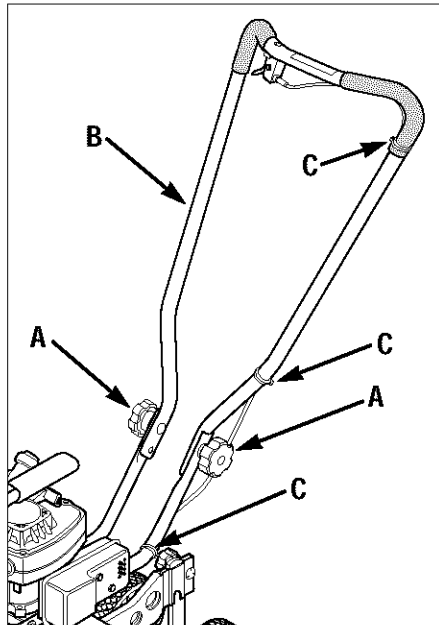

Figure 1: Loosen handlebar knobs and unfold handlebar. Slide plastic ties to the locations shown.
1. Loosen the two handlebar knobs (A, Figure 1) and unfold the handlebar into the operating position. Do not use force — if there is binding, continue to loosen the knobs.
3. Check the locations of the three plastic ties (C, Figure 1). The ties must be positioned as shown.